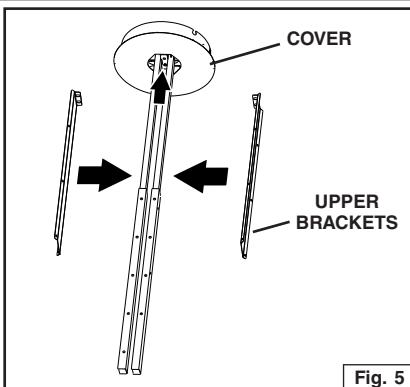
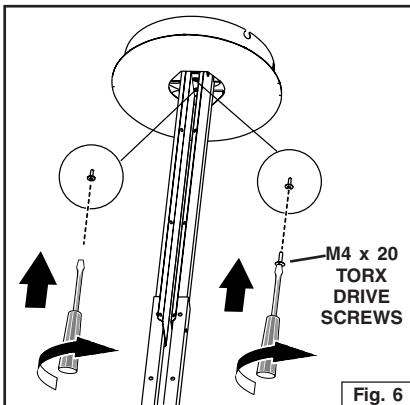

Fig. 5
Fig. 6
1. Install the Upper Brackets to the Telescopic Mounting Arm using (2) Large Head M4 x 20 Torx drive screws. Fig. 5 and Fig. 6. Remove the protective coating.